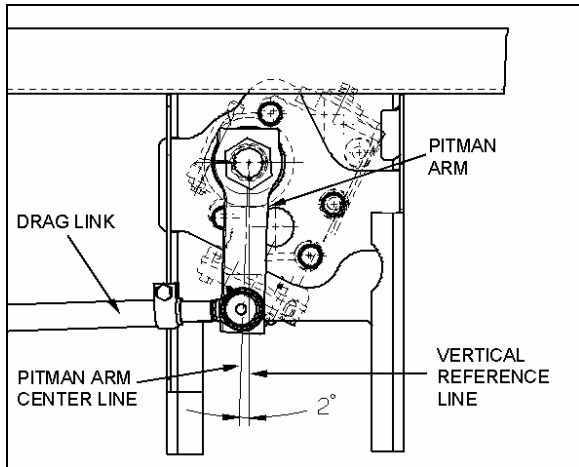

FIGURE 20: PITMAN ARM ALIGNMENT 14056
2. Afterwards, the pitman arm should be adjusted with reference mark aligned or to an angle of 2° in relation with the vertical axis (Fig. 20).